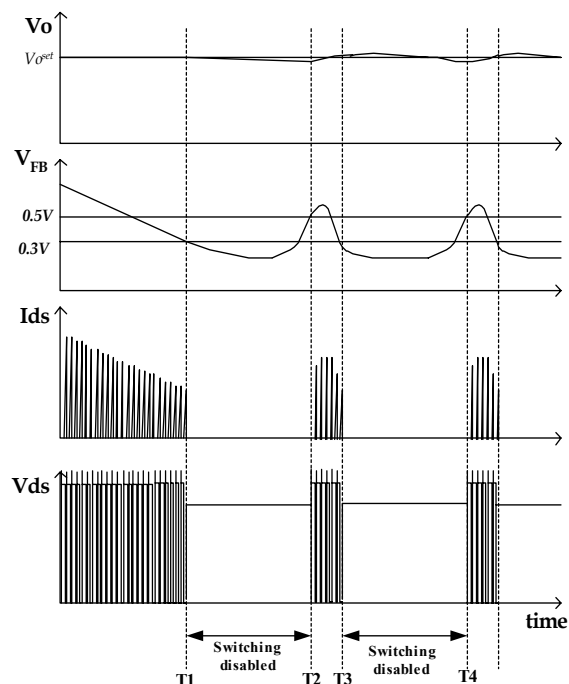

Figure 10. Waveforms of burst operation
6. Burst operation : In order to minimize power dissipation in standby mode, the FSCM0765R enters into burst mode operation at light load condition. As the load decreases, the feedback voltage decreases. As shown in Figure 10, the